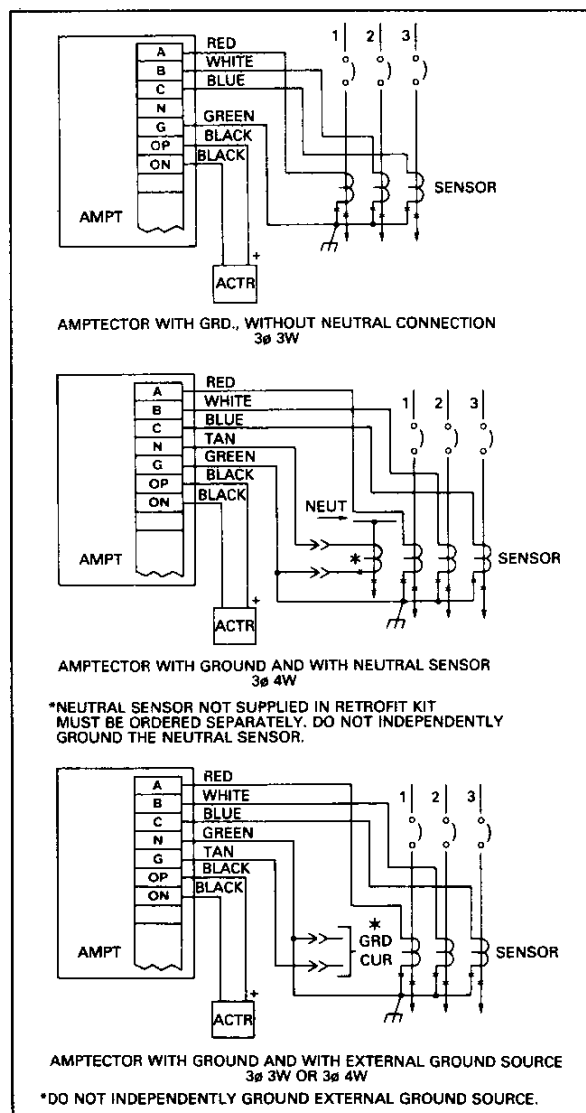

Fig. 4.
All the Amprectors IA in retrofit kits are supplied with a ground element. The ground fault protection is provided by energizing this element with the residual of the currents (from the three properly polarized phase sensors in a 3-phase 3-wire system, or from the three phase sensors plus a neutral sensor in a 3-phase 4-wire system, or from a separate ground current sensor.) The Amprector IA can also be wired so that there is no ground fault protection (see Fig. 4).
9. Thread the amptector end leads from the back of the door through the grommet and the amptector. Connect the leads per wiring diagram, Fig. 4.
1. Acquaint yourself with the wiring scheme, Fig. 4.